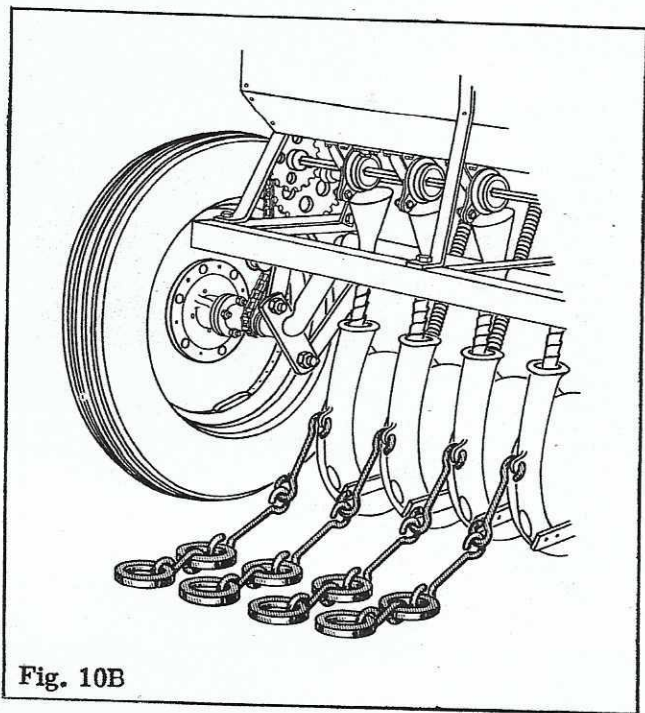

Fig. 10B
13. If drag chains are to be used with your drill, install as illustrated in Fig. 10B.